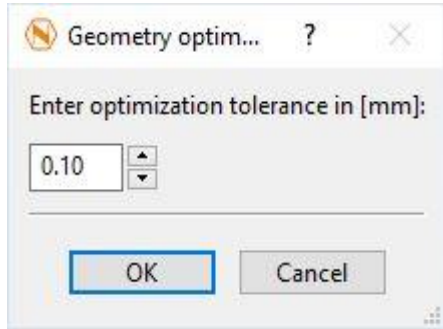

Figure 24
4. Next the Optimizer asks for an **optimization tolerance** (Figure 24).